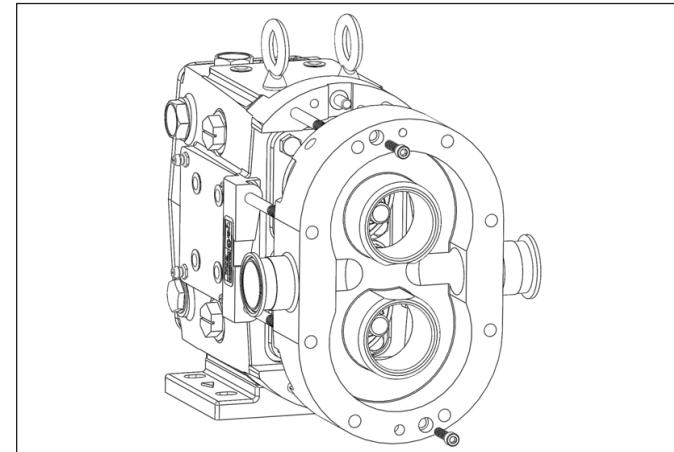

Figure 26. Removing Pump Body
4. Remove the two body hold-down bolts using the appropriate driver. Pull the pump body off by sliding it along the studs (*Figure 26*). If the body is stuck, use a soft mallet to tap the body. Inspect the body for excessive wear, clean, and continue on to seal maintenance. It is important to reassemble the pump body back onto the original gear case because the shafts are shimmed for that particular body.